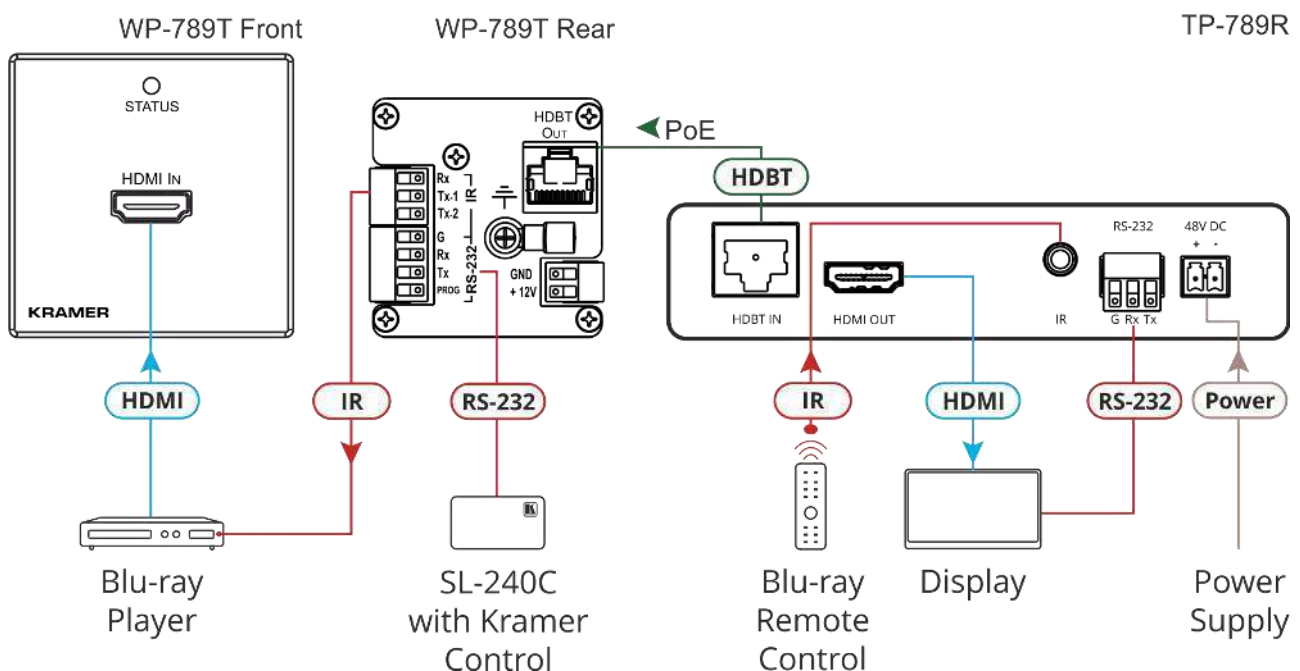

Figure 4: Connecting WP-789T to TP-789R
To connect WP-789T, TP-789R, TP-789Rxr as illustrated in the example in (Figure 4):
1. Connect the HDMI IN Connector (1) on the **WP-789T** front panel to the HDMI source (for example, a Blu-ray player).
2. Connect the IR Terminal Block Connector (4) on the **WP-789T** rear panel to the HDMI source via an IR emitter cable.
3. Connect the HDMI OUT Connector (22) on the **TP-789R/TP-789Rxr** rear panel to the HDMI acceptor (for example, a display).
4. Connect RS-232 Terminal Block Connector (25) on the **TP-789R/TP-789Rxr** rear panel to the HDMI acceptor.
5. Connect an IR sensor cable to the IR 3.5mm Mini Jack Connector (24) on the **TP-789R/TP-789Rxr** rear panel.
6. Connect an RS-232 controller (for example, **SL-240C**) to the RS-232 Terminal Block Connector (3) on the **WP-789T** rear panel.
7. Connect the HDBT OUT RJ-45 Connector (6) on the **WP-789T** rear panel to the HDBT IN RJ-45 Connector (21) on the **TP-789R/TP-789Rxr** rear panel.
8. Connect the power adapter to the 48V DC Power Terminal Block (26) on **TP-789R/TP-789Rxr** rear panel (not shown in Figure 4) and to the mains electricity.
4. Connect the HDMI OUT Connector (8) on the **WP-789R** front panel to the HDMI sink (for example, a display).
5. Connect the IR Terminal Block Connector (9) on the **WP-789R** front panel to the HDMI sink via an IR emitter cable.
6. Connect the RS-232 Terminal Block Connector (11) on the **WP-789R** rear panel to the HDMI sink.
7. Connect the HDBT IN RJ-45 Connector (14) on the **WP-789R** rear panel to the HDBT OUT RJ-45 Connector on **TP-780T**.
8. Connect the power adapter to **TP-780T** rear panel (not shown in Figure 4) and to the mains electricity.